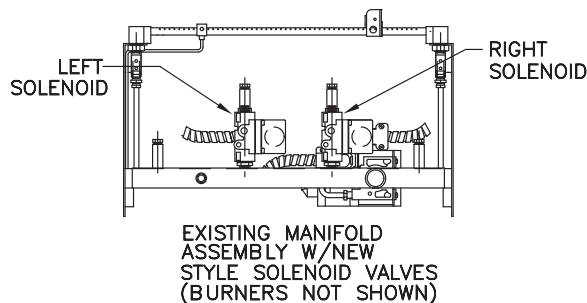

FIG. 3
11. Install the new valve onto the manifold frame in the same location as the original. The valve orientation is parallel to the frame. (See Fig. 3)